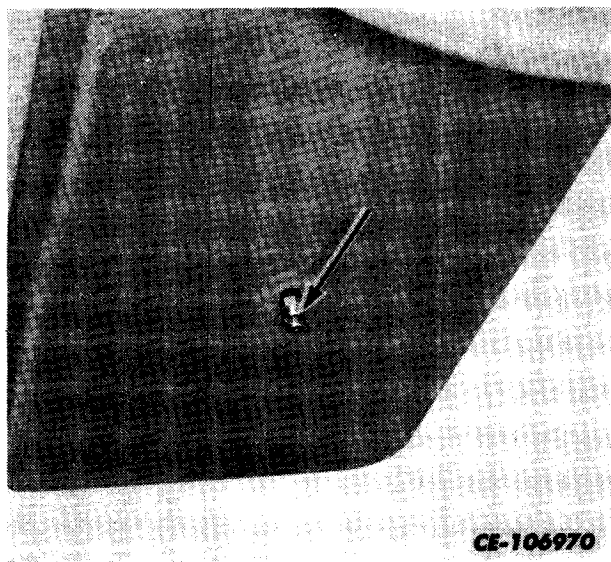

Fig. 34. Fuel Tank Drains
1. Open the fuel tank drain valves (Fig. 34) and drain off any accumulated water.